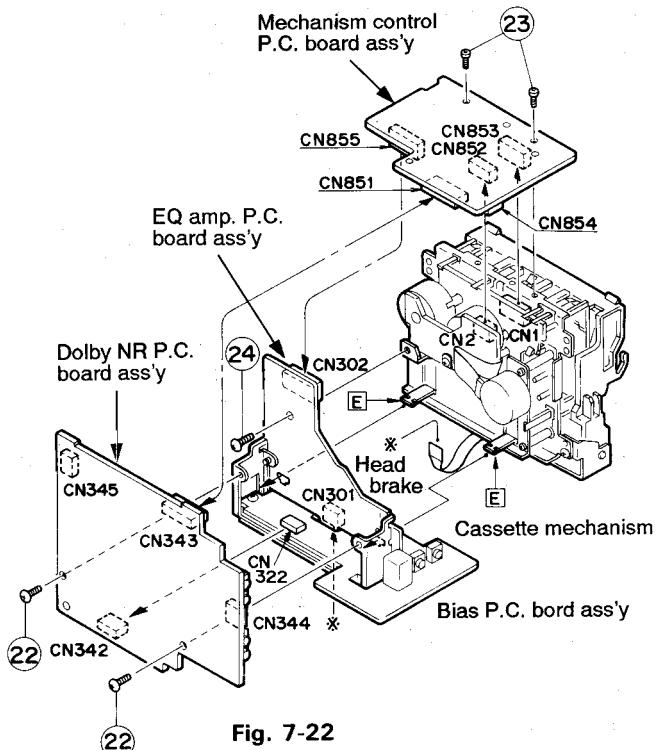
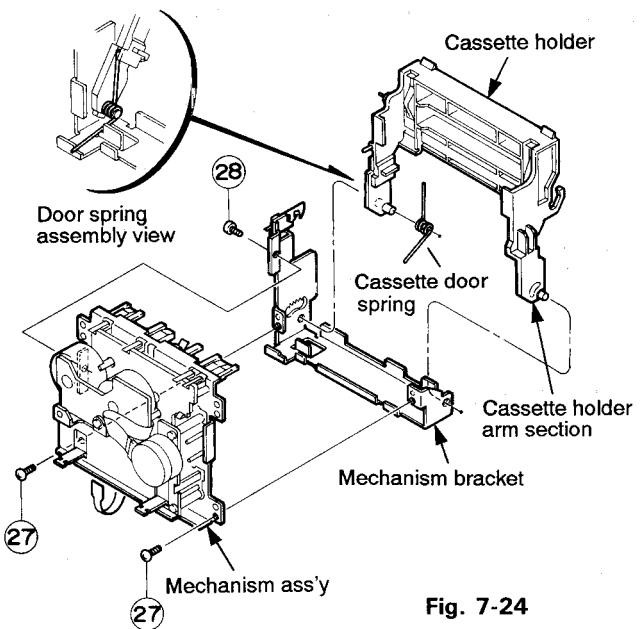

Fig. 7-22
Fig. 7-24
■ How to Remove the Dolby NR P.C. Board (Refer to Figs. 7-22 and 7-23)
4. Remove the two screws (22) retaining the Dolby NR P.C. board.
■ How to Remove the Mechanism Control P.C. Board (Refer to Figs. 7-22 and 7-23)
1. Remove the two screws (23) retaining the mechanism control P.C. board.
■ How to Remove the Equalizer amplifier P.C. Board and Bias P.C. Board (Refer to Figs. 7-22 and 7-23)
2. Remove the one screw (24) retaining the equalizer amplifier P.C. board.
3. Remove the two protrusions (E) on the cassette mechanism retaining the equalizer amplifier P.C. board.
4. From the P.C. board bracket, remove the two screws (25) retaining the equalizer amplifier P.C. board.
6. From the P.C. board bracket, remove the one screw (26) retaining the bias P.C. board.
■ How to Remove the Cassette Holder (Refer to Fig. 7-24)
- Reference:** For dismounting the mechanism bracket, remove the three screws [(27) x 2 and (28) x 1] retaining the cassette mechanism bracket.
2. From the chassis base, remove the three screws (37) retaining the FM bracket ass'y (Refer to Fig. 7-24).